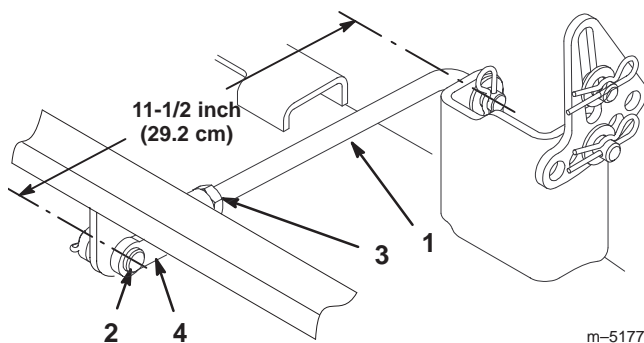

Figure 41
6. Measure the length of the rear trunion rod (Fig. 41). If the rod length is not 11-1/2 inch (29.2 cm), remove the clevis pin and cotter pin from the end of the rod (Fig. 41), loosen the jam nut, and turn the yoke until the 11-1/2 inch (29.3 cm) dimension is obtained. Then secure the yoke with the clevis pin and cotter pin. Repeat this procedure on the opposite side of the mower.
12. When the front-to-rear blade slope is correct, tighten the jam nuts (Fig. 41 and 43).